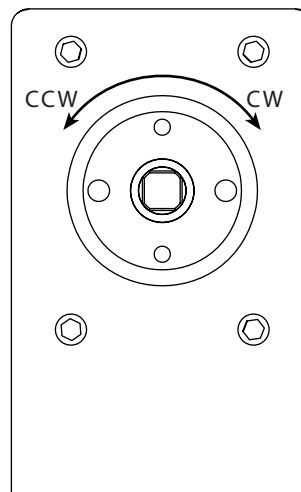

Figure 8: Actuator orientation
1. Make sure that the valve is mounted on the actuator with the stop pin all the way against the Position A stop. You can check by loosening the clamp ring and turning the valve counterclockwise by hand, then tightening the clamp ring. (For orientation, refer to the **Figure 8** at the bottom of the next page.) If it will not move, it was already against the stop.